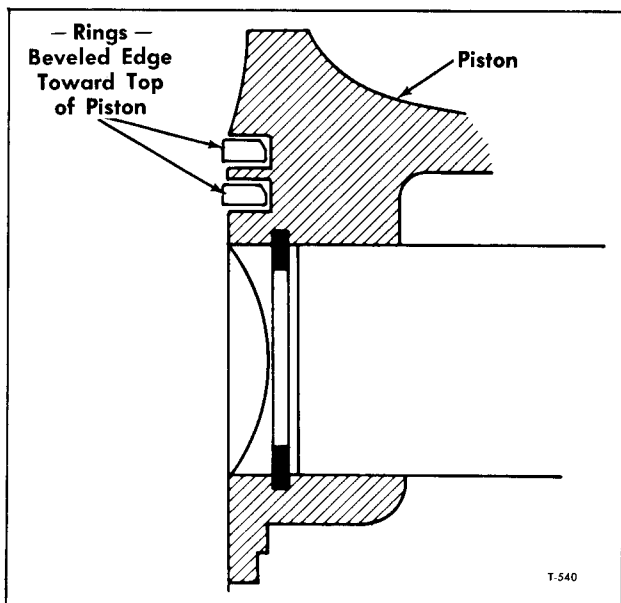

Figure 47—Ring Position in Piston
1. Position connecting rod (37) in piston (38). Drive piston pin through piston and rod using a hammer and soft driver. Install pin snap rings (39) using Tru-Arc pliers.
2. Work rings (41) carefully over top of piston to their respective grooves, using shim stock to aid in moving rings into position. NOTE: Chamfer on rings should always be on top as shown in figure 47. Check for freeness of rings in grooves after installing.